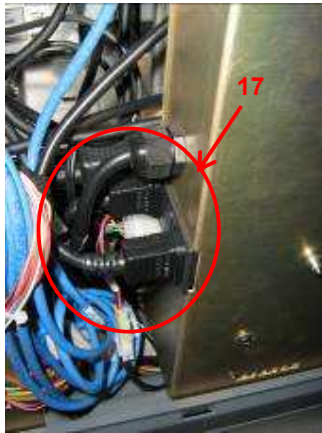

Figure 14: Plugging the FL power cord into the Main Power Module
15. Connect the other end of the power cable to the Mains Power Distribution Module (Figure 14).